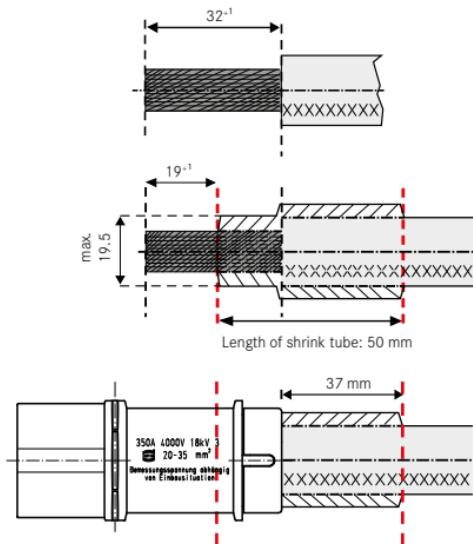
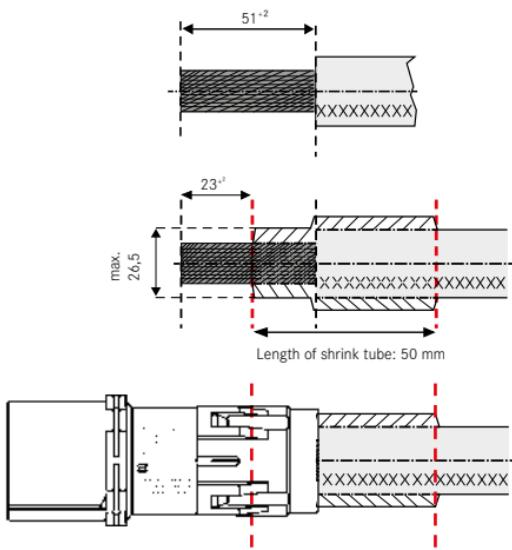

Figure IV-11: Shrink tube assembly over the cable for Han® HC Modular 350
Figure IV-12: Shrink tube assembly over the cable for Han® HC Modular 650
- ① Strip the cable according to Figure IV-11 and Figure IV-12.
- ② The following points must be observed when applying the shrink tube directly on the cable:
- ③ Terminate the cable to the torque specified for the wire gauge (see Table IV-2, p. 32):